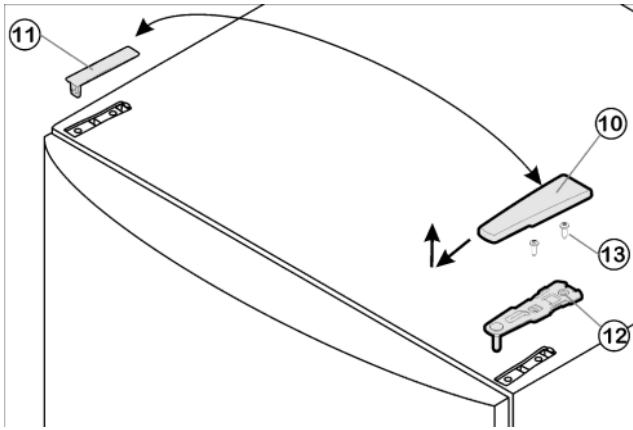

Fig. 6
- ▶ Pull off the cover Fig. 6 (10) forwards and upwards.
- ▶ Lift off the cover Fig. 6 (11).
- ▶ Unscrew the upper turn hinge Fig. 6 (12)(2x Torx® 25) Fig. 6 (13) and raise it for removal.
- ▶ Insert the upper turn hinge Fig. 6 (12) in the door on the new hinge side.
- ▶ Screw the upper turn hinge Fig. 6 (12) firmly into place (with 4 Nm)(2x Torx® 25) Fig. 6 (13). Possibly make preliminary holes with a bradawl or use a cordless screwdriver.
- ▶ Snap the cover Fig. 6 (10) and cover Fig. 6 (11) into place at the opposite side.